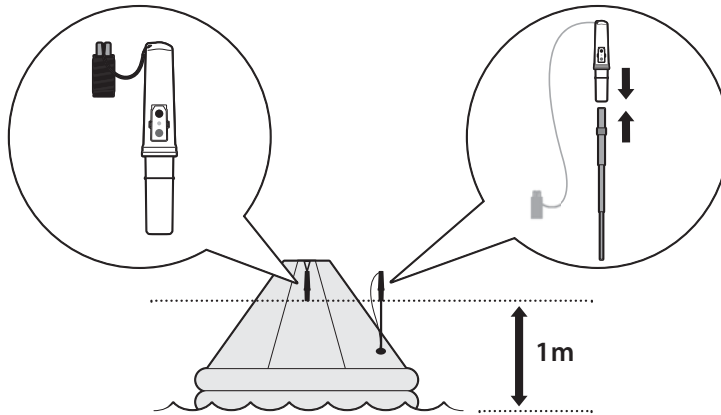

Figure 10 AIS SART deployment height
- The base of the AIS-SART should be 1 metre above sea level when deployed as shown in Figure 10.
Use the lanyard to tie the AIS SART to the highest point inside the liferaft canopy. The base of the AIS-SART should be 1 metre above sea level when deployed as shown in Figure 10.